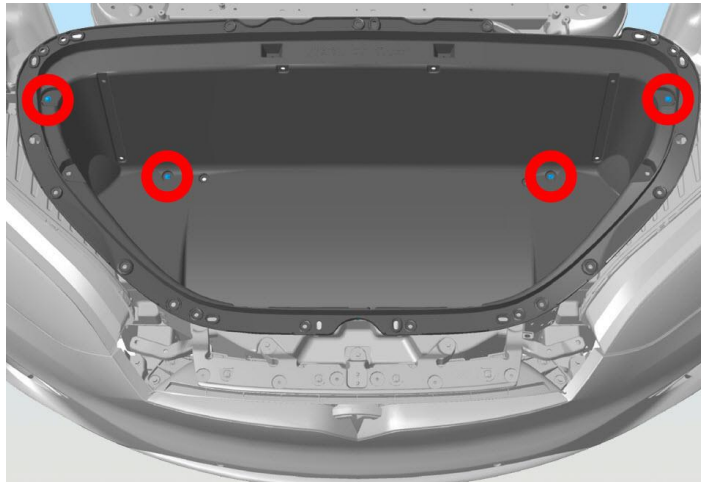

Figure 17. Underhood storage unit fasteners (2/3)
- 4 fasteners as shown (Figure 17).